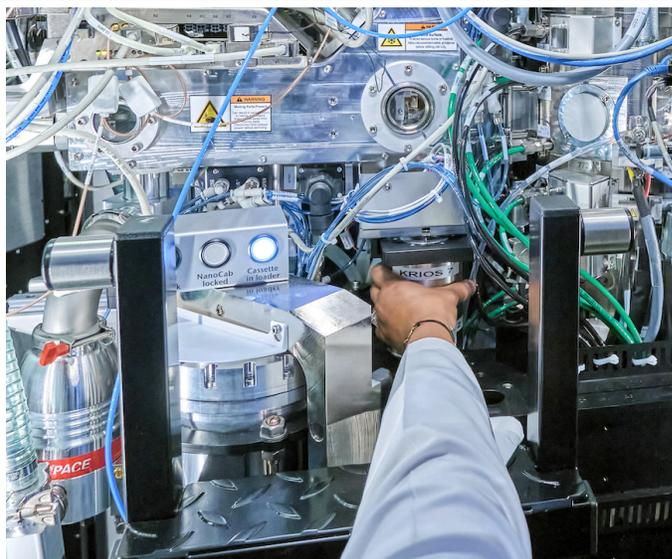

Figure 12. Highlight of Krios autoloader dock, with hand placing NanoCab for docking. Indicator lights and loading buttons are to the left.
5.1. Figure 12. Autoloader Dock Highlighted